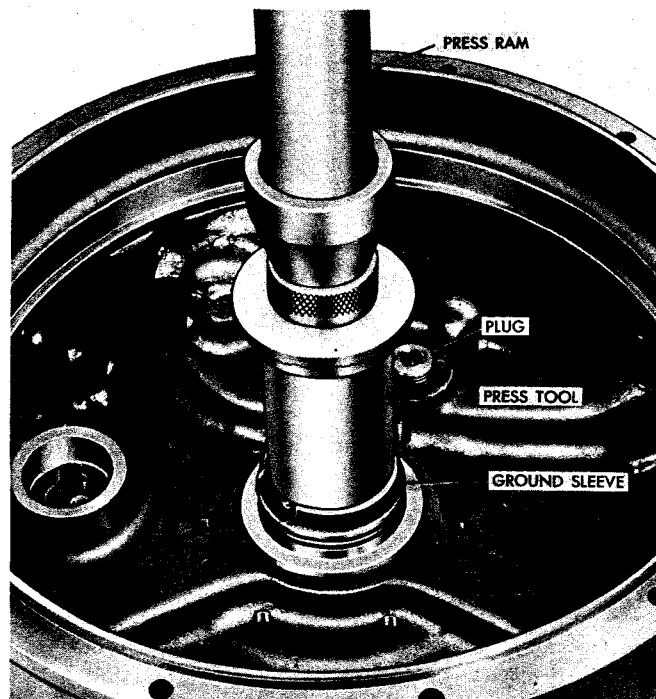

Fig. VI-14. Removing converter ground sleeve
(1) If necessary for parts replacement, remove converter ground sleeve 20 from housing 34 by pressing the sleeve toward the rear of the housing (fig. VI-14). Be sure to press on the shoulder of the ground sleeve.